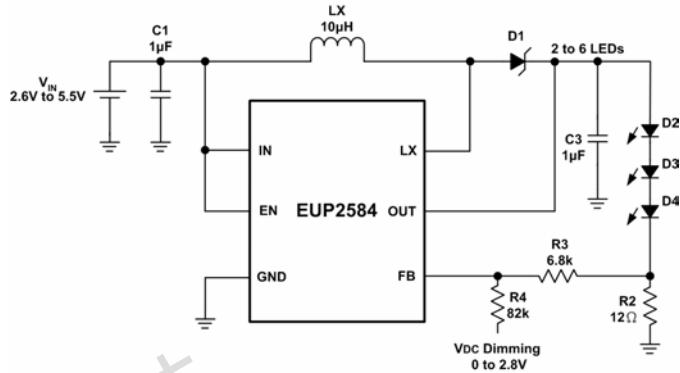
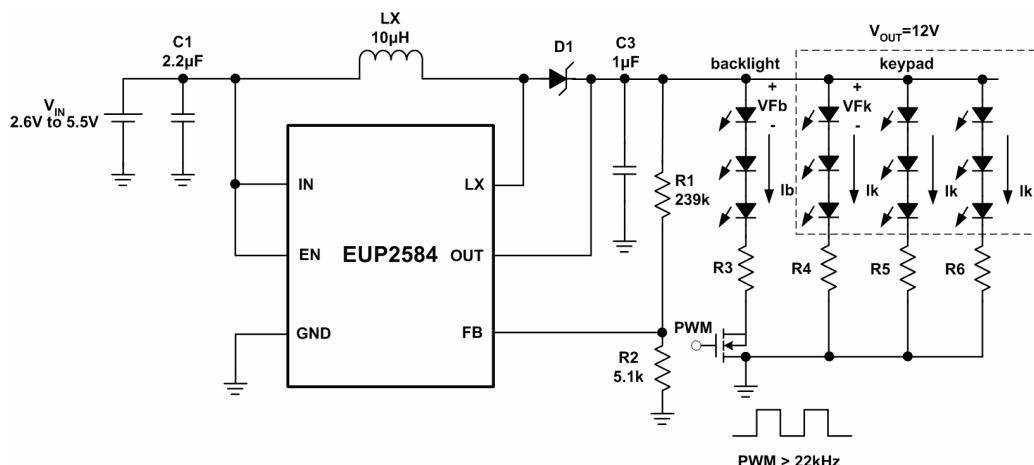

Figure 4. Dimming Control Using a DC Voltage
Figure 7. Constant Output Voltage for Backlight and Keypad
Using a variable DC voltage to adjust the brightness is a popular method in some applications. The dimming control using a DC voltage circuit is shown in Figure 4. According to the Superposition Theorem, as the DC voltage increases, the voltage contributed to V_{FB} increases and the voltage drop on R2 decreases, i.e. the LED current decreases. For example, if the V_{DC} range is from 0V to 2.8V, the selection of resistors in Figure 4 sets dimming control of LED current from 20mA to 0mA.
Figure 7 is another application of EUP2584 for backlight and keypad. Setting the divider-resistors (R1 & R2) is to get a constant output voltage that depends on the forward voltage and the numbers of series-LEDs. It can turn on backlight of main panel and keypad at the same time. Applying different duty cycle of PWM signal above 22kHz to the backlight's switch can also control the brightness of main panel's backlight. The keypad's backlight will keep the same brightness during the dimming control of main panel. Otherwise the brightness of keypad's s backlight can also change during the dimming control of main panel by using the application circuit as figure 4. The following formula (5)(6) can determine the resistors of Figure 8.